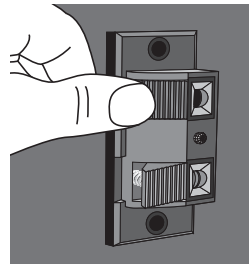

figure 4
2. Gently press on the toggle to open the connector (**figure 4**).